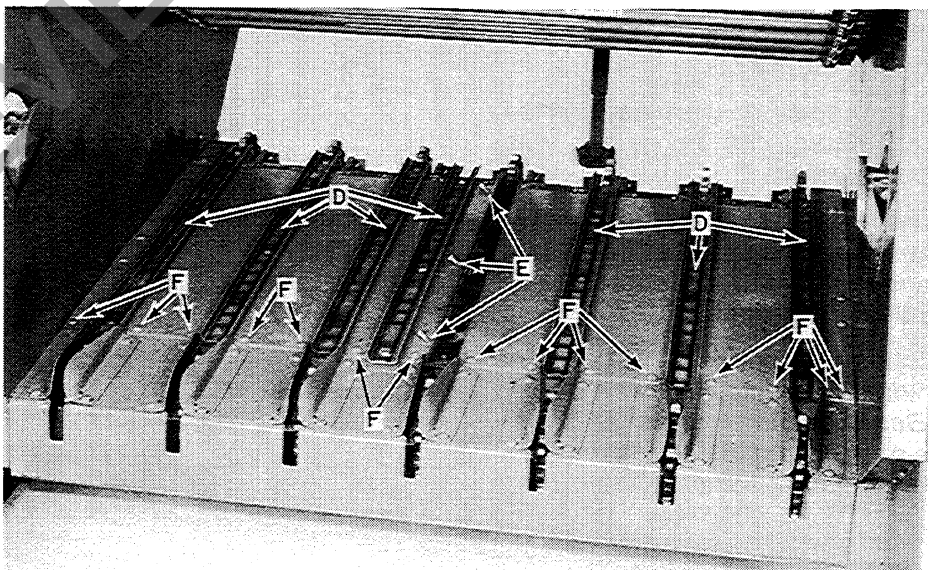

FIGURE 58
3. To remove the floor guide channel, D, Figure 58, from the baler, remove the plow bolts, E.